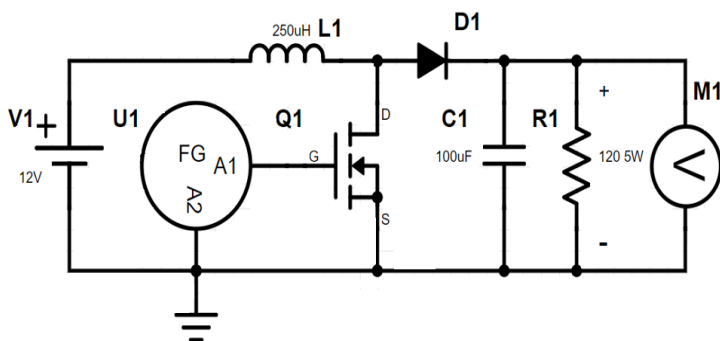

Figure 32
1. Make connections according to Fig.32
2. The function generator (FG) has the positive lead (A1) connected to the MOSFET gate G